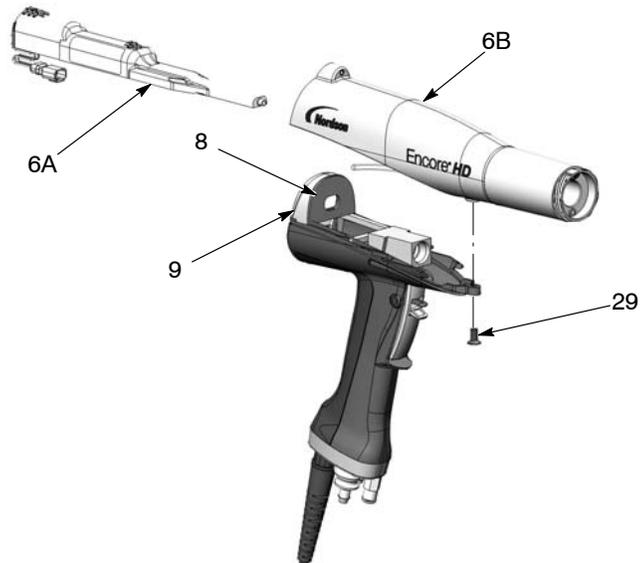

Figure 5-4 Removing the Power Supply from the Gun Body
1. See Figure 5-4. Slide the power supply (6A) out of the gun body (6B).
2. Check the gasket (8) on the back of the bulkhead (9). Replace it if it is damaged. The gasket is stuck to the bulkhead with pressure-sensitive adhesive.